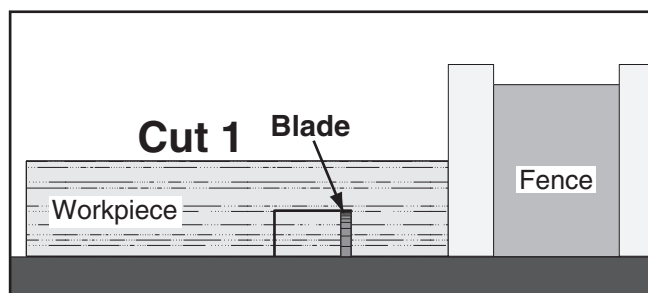

Figure 58. First cut for a single-blade dado.
6. Align blade to cut one side of dado, as shown in **Figure 58**.